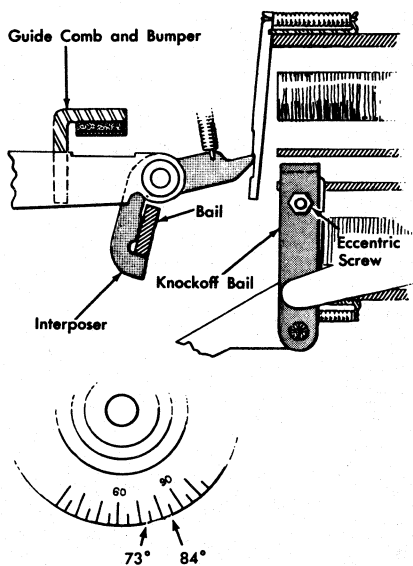

Figure 56. Magnet Unit Adjustment
1. Install magnet unit with reasonable unlatching clearance as a preliminary step. Make screws finger tight and restore all but four interposers across unit. Manually rotate index clockwise; unlatched interposers, in their downward motion, should start to enter their armature notches at 65° and all should be in their notches by 73°. On the IBM 56 without error retention, interposers should enter notches at 73° and all should be in the notches by 84° (Figure 56). The space interposer movement varies from that of other interposers but may not be later than 90°.